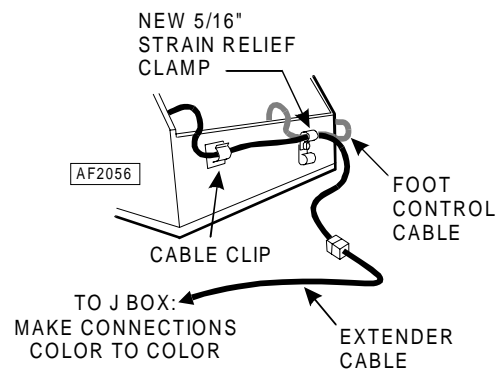

Figure 5
13. Secure the cable to the front of the chair using the new strain release clamp provide. This clamp can hold both the new cable and the foot control cable (See Figure 5).